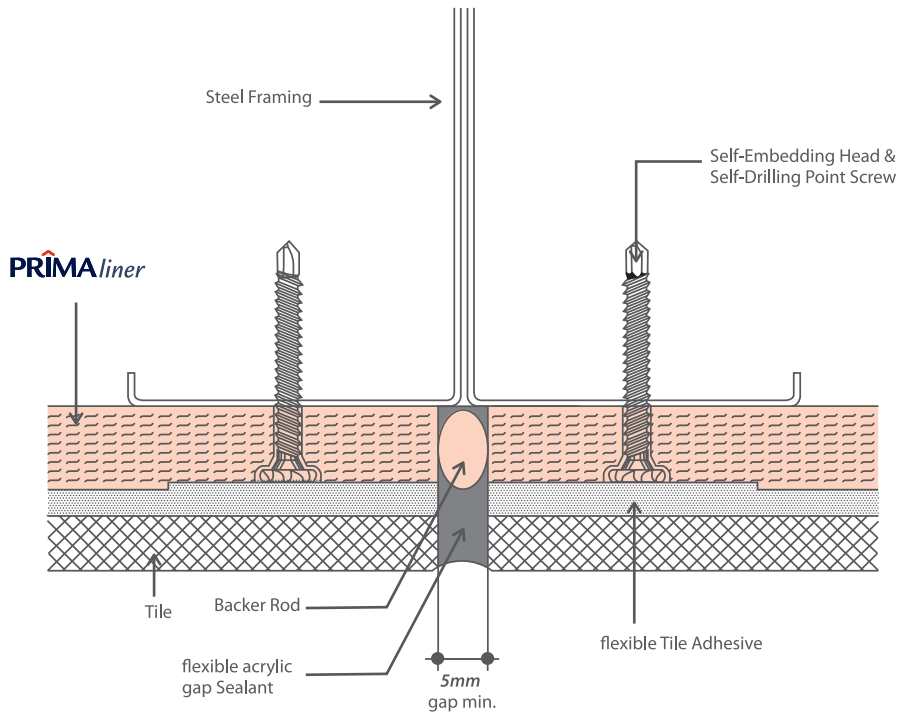

Figure 14: Detail at Tiled Expansion Joint
4. Do NOT tile over the Expansion Joint. Refer **Figure 14**.
5. Expansion Joint should be sealed with flexible water resistant acrylic gap Sealant. Refer **Figure 14**.